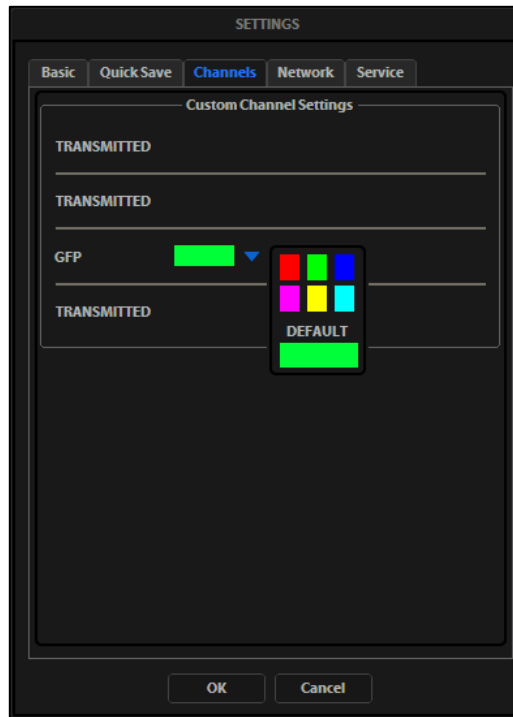

Figure 39 Assigning custom channel display colors (not applicable for the color camera version)
2. Select the appropriate color from the drop-down menu for each light cube you wish to customize. (Figure 39)